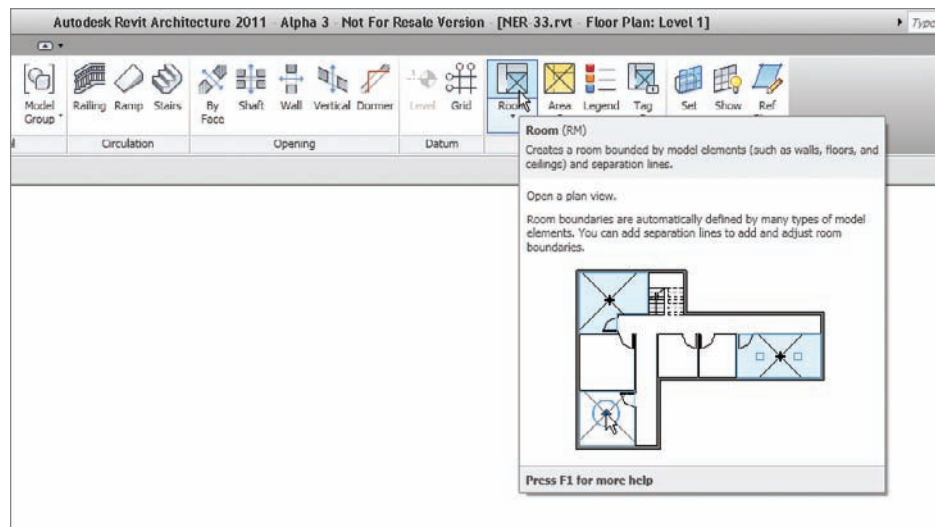

FIGURE 15.1 Clicking the Room button on the Room & Area panel of the Home tab
2. In the Room & Area panel on the Home tab, click the Room button, as shown in Figure 15.1.